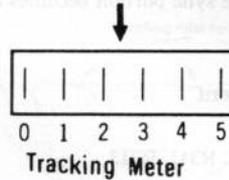

Fig. 32
6. Adjust R559 so that the indication of tracking meter becomes as shown in Fig. 32.